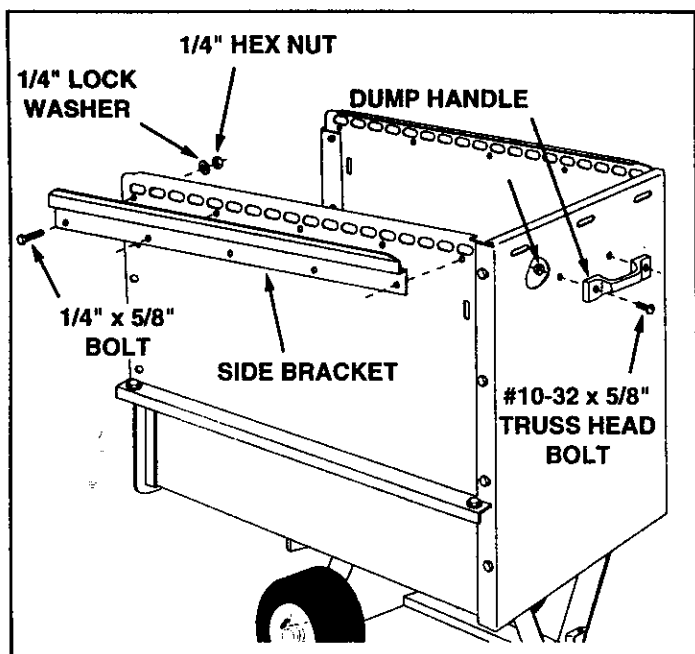

FIGURE 13
- Assemble the dump handle to the front panel using two #10-32 x 5/8" truss head bolts and #10-32 hex nuts. **Tighten**. See figure 13.
- Assemble the a side bracket to the front hole and the two rear holes in a side panel. Use three 1/4" x 5/8" hex bolts, 1/4" lock washers and 1/4" hex nuts. **Tighten**. See figure 13. Repeat for other side.